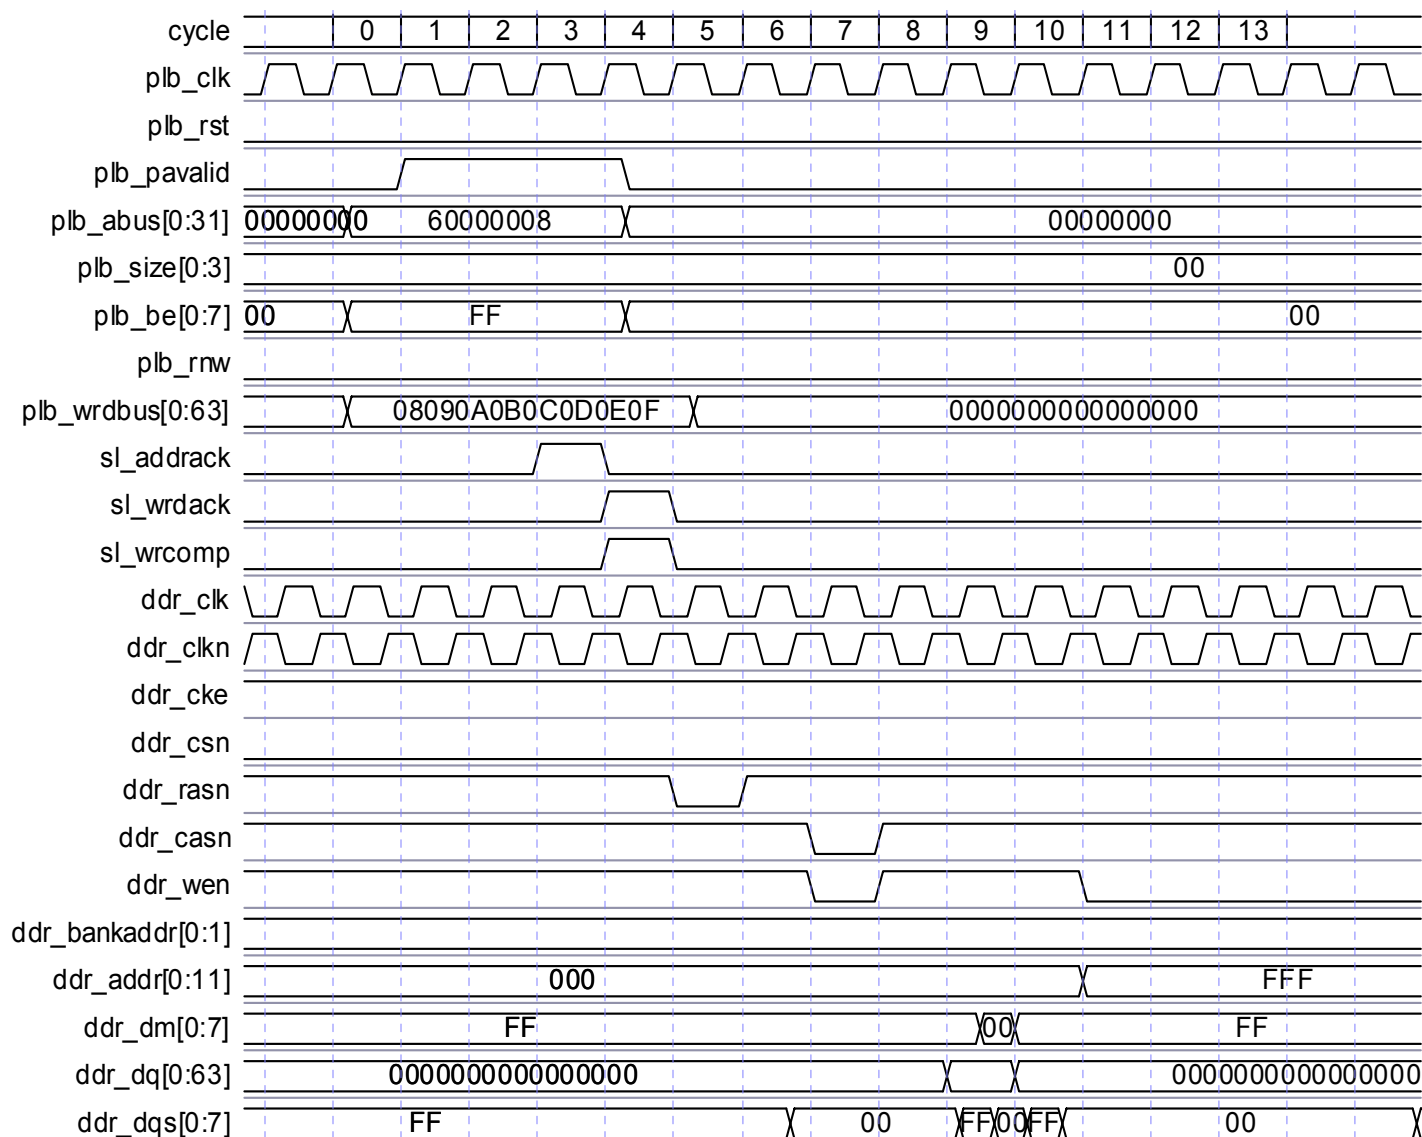

Figure 19: Single Double Word Write Transaction with Bus2IP\_Addr(28)='1'
If Bus2IP\_Abdr(28) is high then the data will be written on the negative edge of the clock and the data on the positive edge of the clock will be masked **Figure 19**.